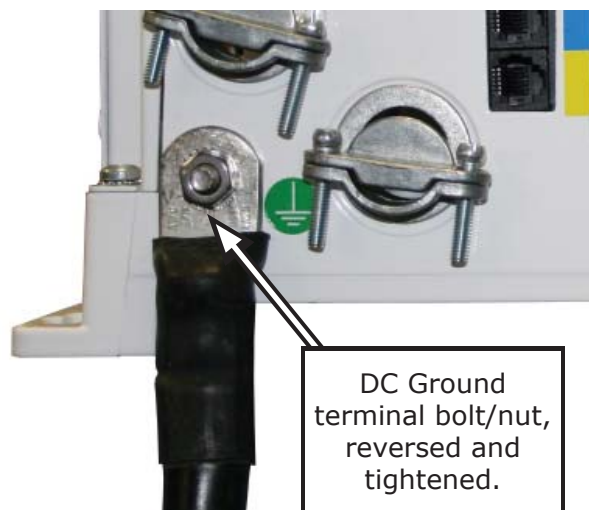

*Figure 2-22, Disconnecting the Ground-to-Neutral connection*
2. Look inside and locate the green wire with the insulated connector at the top of the AC wiring compartment; see Figure 2-22. This insulated connector connects the neutral and ground inside the inverter while inverting.